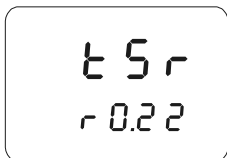

Figure 11: Successful field calibration lockout
3. If field calibration lockout is successful, the version-model window appears without the CAL indicator (Figure 11).